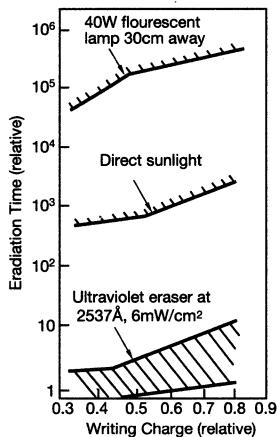

Figure 2-7 EPROM Data Retention Time
**Data Dissipation by Ultraviolet Light:** Ultraviolet light at a wavelength no greater than 3000 to 4000 Å is capable of releasing the electric charge at the floating gate of the EPROM with varying efficiencies. Fluorescent light and sunlight contain some ultraviolet light, and so prolonged exposure to these lights can cause data corruption as a result of electric charge dissipation. Figure 2-7 shows the standard data retention time under an ultra-violet eraser, sunlight, and fluorescent lighting.